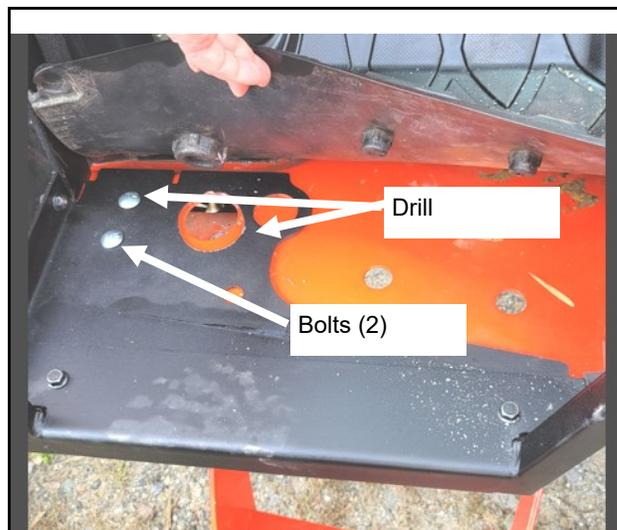
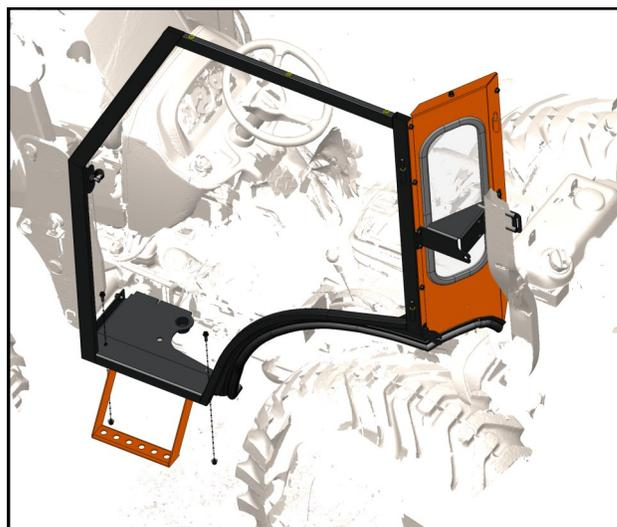

Fig. 4.1 (Modify floorboard mounts)
Fig. 4.2 (Side Frame)
4.1 SE models only. Reference figure 4.1. Bolt the left mount to the left mounting bracket using the hardware listed in step 4.2. Position the side frame mount assembly as shown in figure 4.2. Use the plug in the floormat to mark where the mount needs to be drilled or cut. Remove and drill or cut. Reposition, check under floorboard and find appropriate place to drill mount and tractor floorboard for 2 button head mounting bolts, nuts and washers, not included. 5/16-18 recommended.
4.2 Place the left side frame / rear leg assembly on top of the floorboard mount and fender with the ROPS mount flange to the inside of the ROPS. See figure 4.2. Secure the side frame to the floorboard mount with two 1" long bolts and nuts. Secure the back of the rear leg to the lower rear bracket with two 3/4" long bolts and nuts.